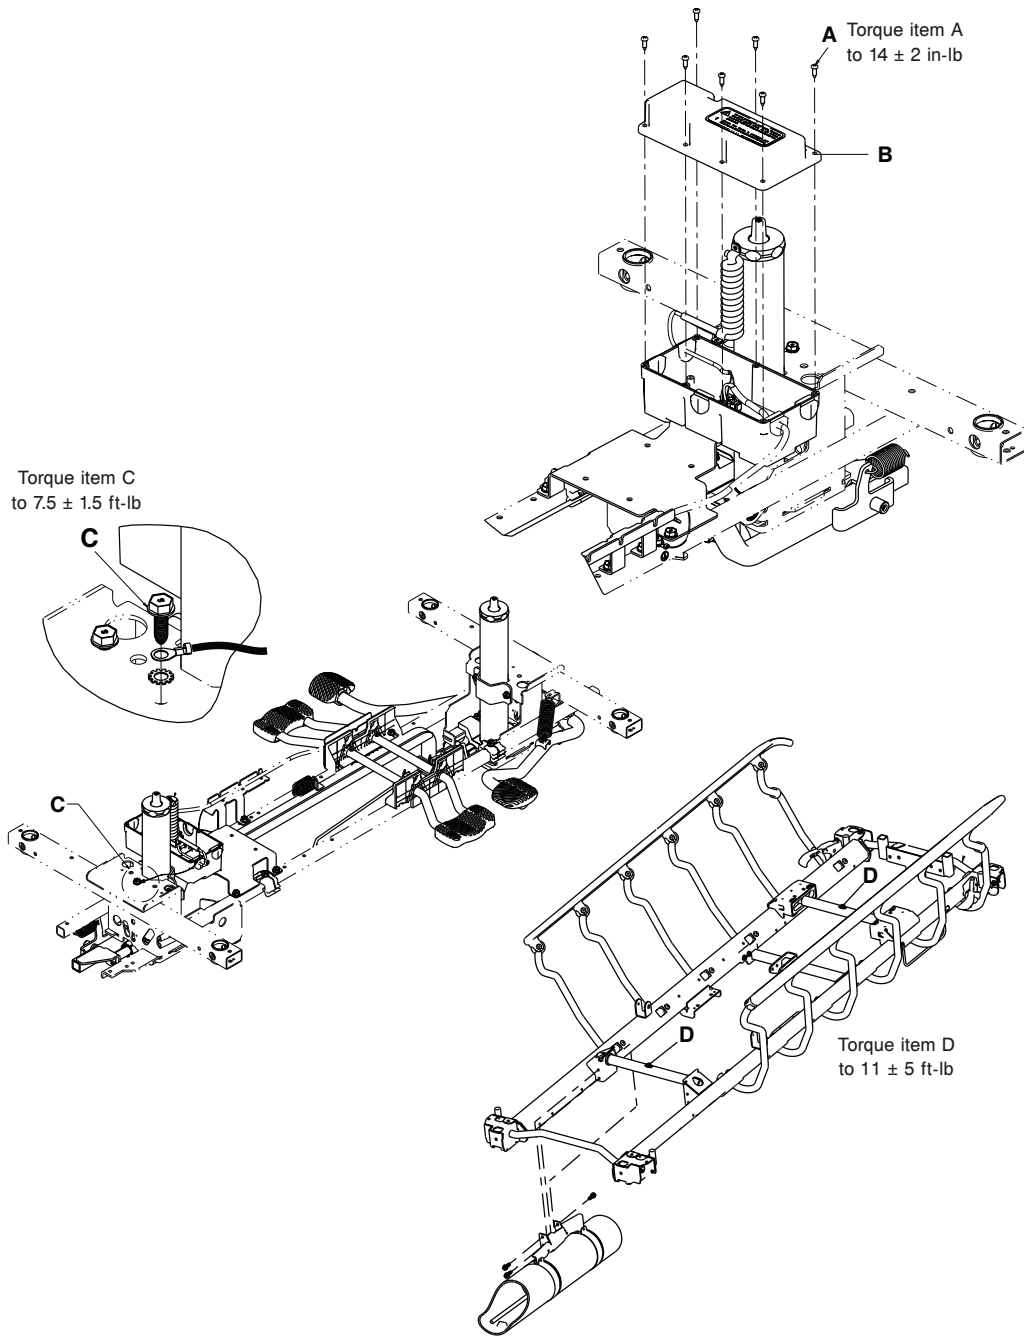

Figure 23 – Litter top removal - electric
3. Using a 1/2" socket with a 3/8" drive extension and a 3/8" drive ratchet, remove the seven pan head tapping screws (A) that secure the power box cover (B) (Figure 23). When you reinstall, use a 3/8" drive torque wrench (in-lb) to torque the screws to 14 ± 2 in-lb.